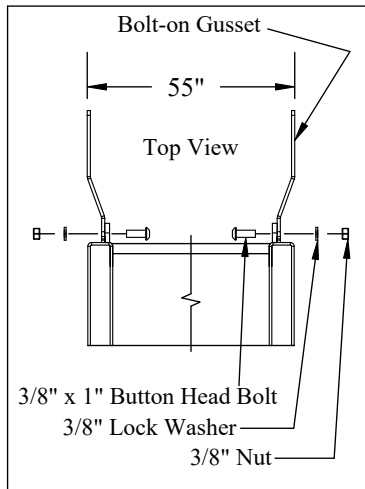

Figure 2: Top view of liftgate bolt-on gussets.
1. **Install** the bolt-on gussets with eight (8) 3/8" x 1" button head bolts, lock washers, and nuts (Figures 2 & 3).